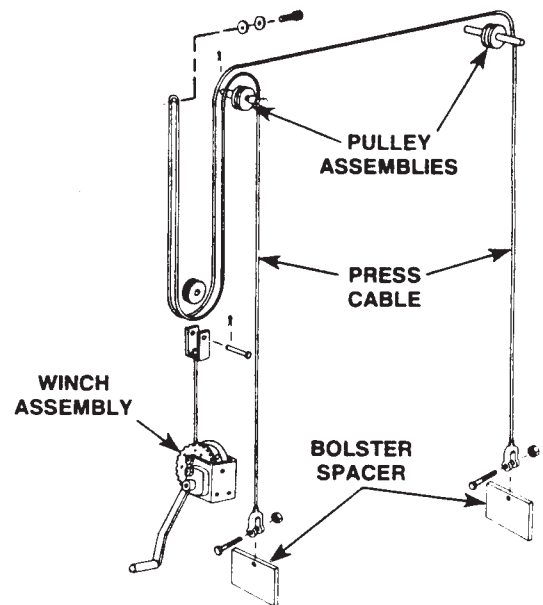

FIGURE 1
11. Attach one end of press cable (#3, sheet 2 of 2) to right side of lower bolster (#12) with cable anchoring cap screw (#1, sheet 2 of 2) and lock nut (#2, sheet 2 of 2). Thread remaining end of cable through pulley (#3) and attach to left side of lower bolster. To finish threading the press cable, refer to the cable threading diagram in Figure 1 on this page.